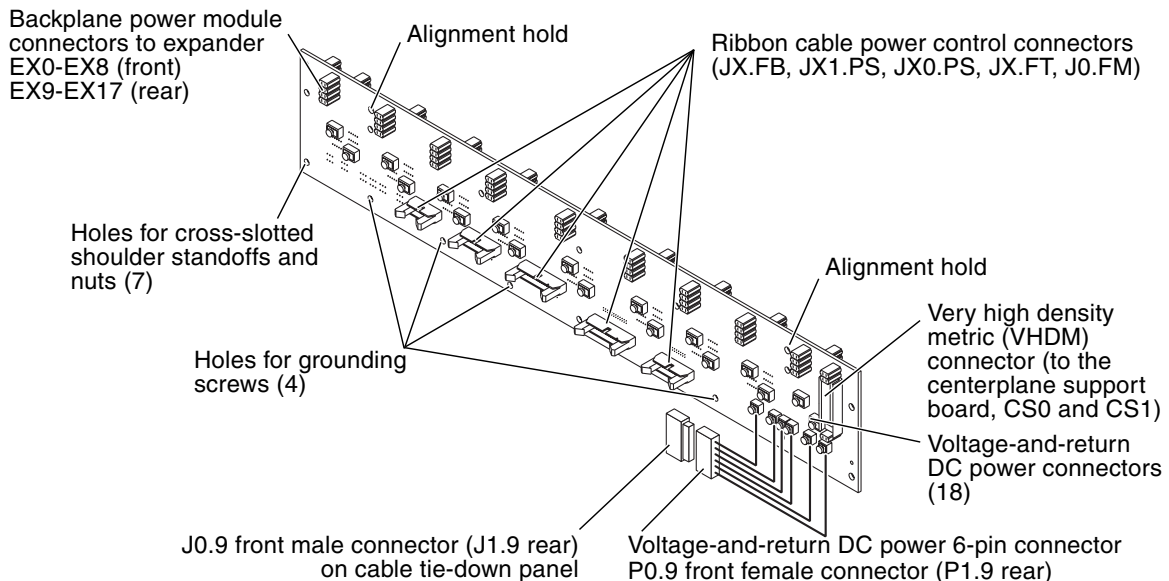

FIGURE 15-1 Power Centerplane Power Control Connections
3. Remove fan tray F7, to access the two (2) lower M4x8 Phillips screws of the DC cable cover, and place on a flat sturdy surface. See Section 4.2.3, “Removing a Fan Tray” on page 4-4.
4. Remove the DC cable cover by removing the nine (9) M4x8 Phillips screws from the DC cable cover.
5. Remove the five (5) ribbon cable power control connectors from the power centerplane (FIGURE 15-1).
3. Remove the DC cable cover by removing the nine (9) M4x8 Phillips screws.
4. Remove the five (5) ribbon cable power control connections from the power centerplane. See FIGURE 15-1.
6. Remove the eighteen (18) voltage-and-return DC power cables from the power centerplane by releasing the captive screw of each cable while pulling back on the lug.
7. Remove the four (4) M4x10 panhead grounding screws from the power centerplane.